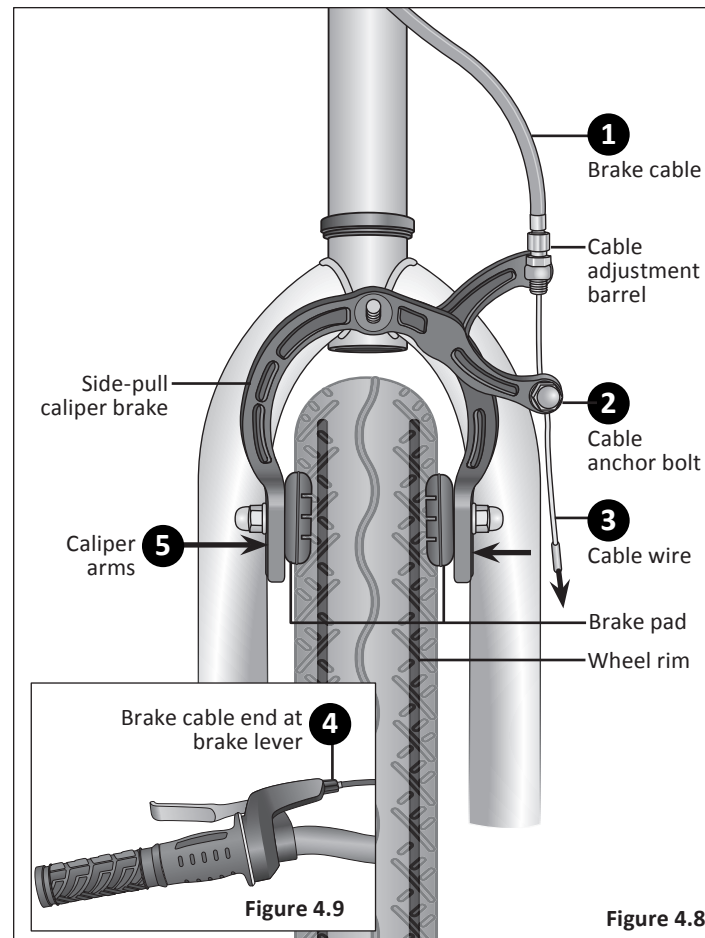

Figure 4.9
- 7 Tighten the cable anchor bolt as much as you can by hand and then while still squeezing the caliper arms until both brake pads contact the rim, tighten the cable anchor bolt fully with a 10 mm box wrench. **Note:** Use the adjustment barrel(s) to fine-tune the brake cable tension. Turning the barrel clockwise will loosen the brake cable tension, counter-clockwise will tighten the brake cable tension. **Figure 4.9**